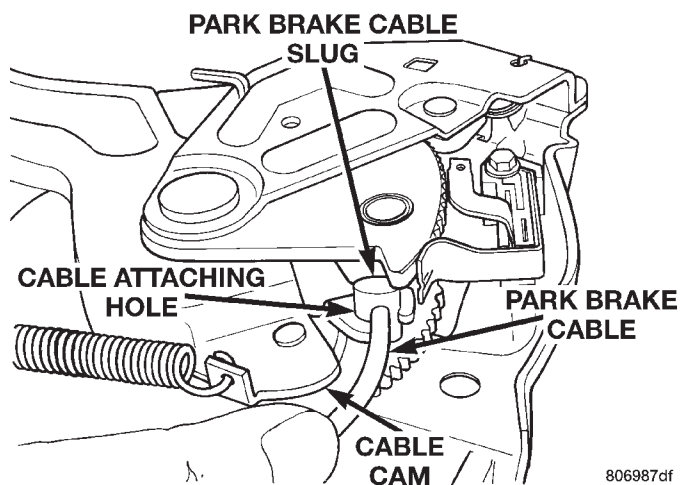
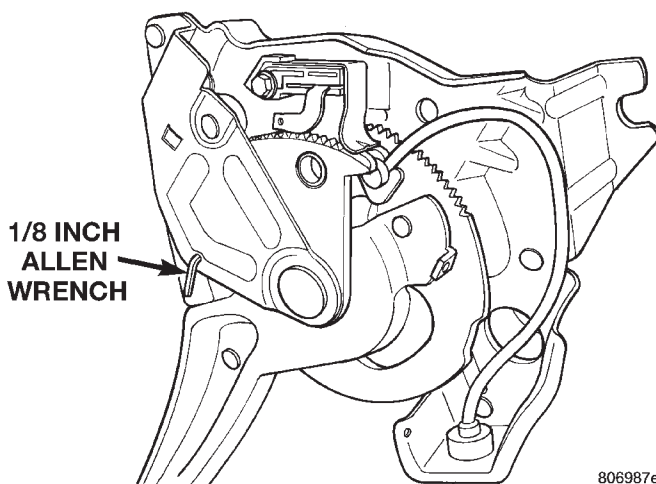

Fig. 93 Park Brake Cable Removal From Park Brake Mechanism
Fig. 95 Adjuster Locking Pin
(5) Remove park brake pedal mechanism and cable as an assembly from body of vehicle.
(6) After park brake pedal assembly is removed from vehicle body. Rotate park brake cable to align cable with notch in cable attaching hole on park brake pedal mechanism (Fig. 93). Lift lead slug of park brake cable, out of retaining hole in park brake mechanism, then remove park brake cable from park brake mechanism.
(2) Align park brake cable slug with attaching hole on park brake assembly (Fig. 93). Install park brake cable into cable attaching hole in park brake assembly, and rotate cable into place. Be sure cable is properly seated in the cam surface track in the foot lever assembly (Fig. 93).
(6) Ensure that the park brake cable is properly routed in the cam surface track of the park brake pedal assembly (Fig. 93). Using a pair of pliers, firmly grasp the 1/8 inch allen wrench installed in the park brake mechanism (Fig. 95). Remove allen wrench from park brake pedal mechanism, using a firm and rapid pull. When allen wrench is removed from park brake pedal mechanism, the park brake mechanism and park brake cables will automatically adjust. **See parking brake adjustment procedure in this section of the service manual for complete parking brake adjustment procedure.**